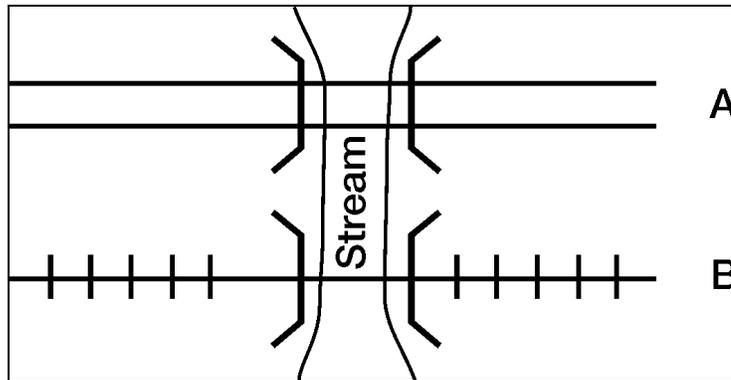

Figure 3-61. Bridges
- l. Bridges (see Figure 3-61).
- (1) Highway.
- (2) Railroad.